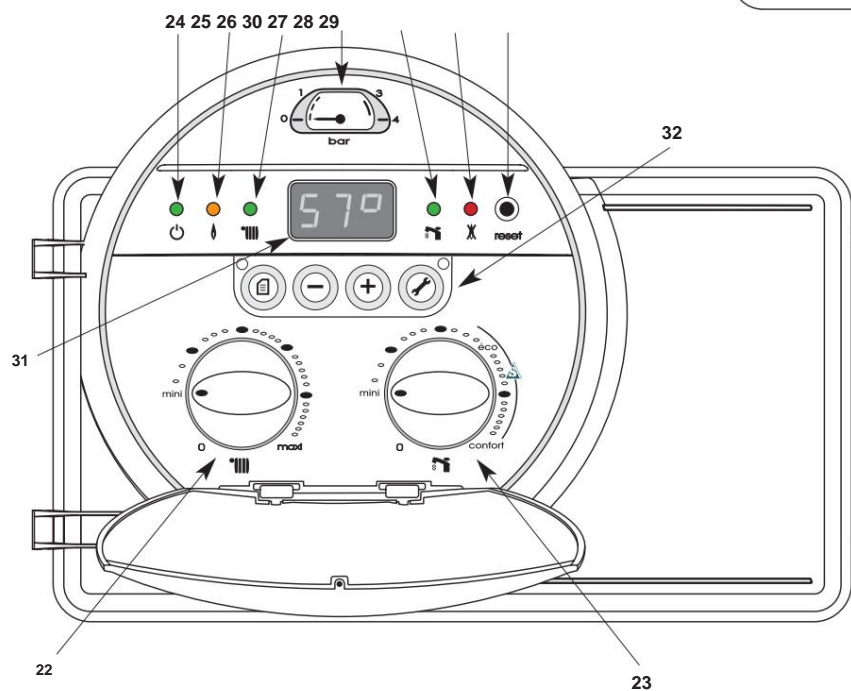

Fig.2
11. - electronic unit (fig. 2)